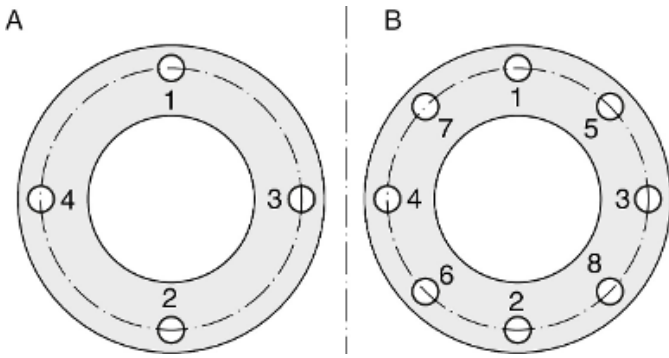

Fig. 20: Flange variants
1. ▶ Tighten the screws crosswise, according to Fig. 20, with 30% of the specified tightening torque.